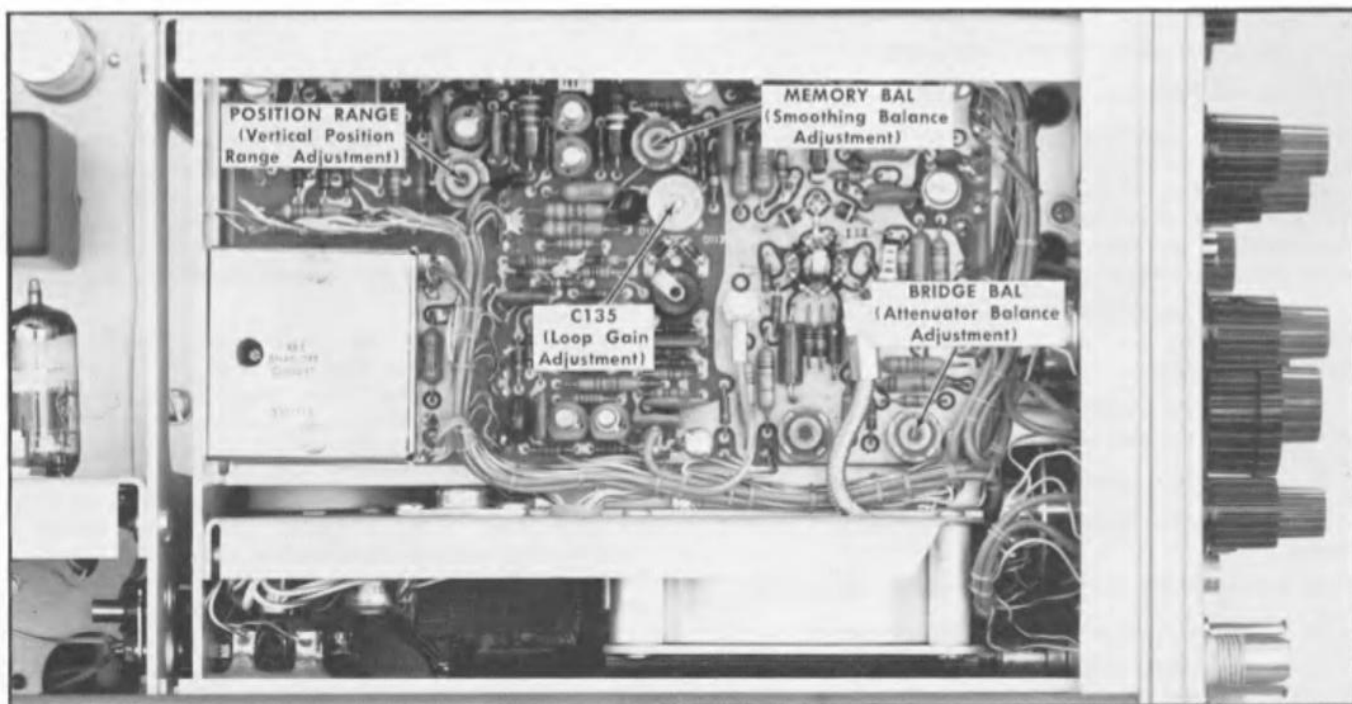

Fig. 2-4. Operational adjustment controls on the left side of the Type 151.
2. Locate the MEMORY BAL adjustment control (R110) shown in Fig. 2-4.
5. Locate the BRIDGE BAL adjustment control (R30) shown in Fig. 2-4.
3. Locate the POSITION RANGE adjustment control (R194) shown in Fig. 2-4.